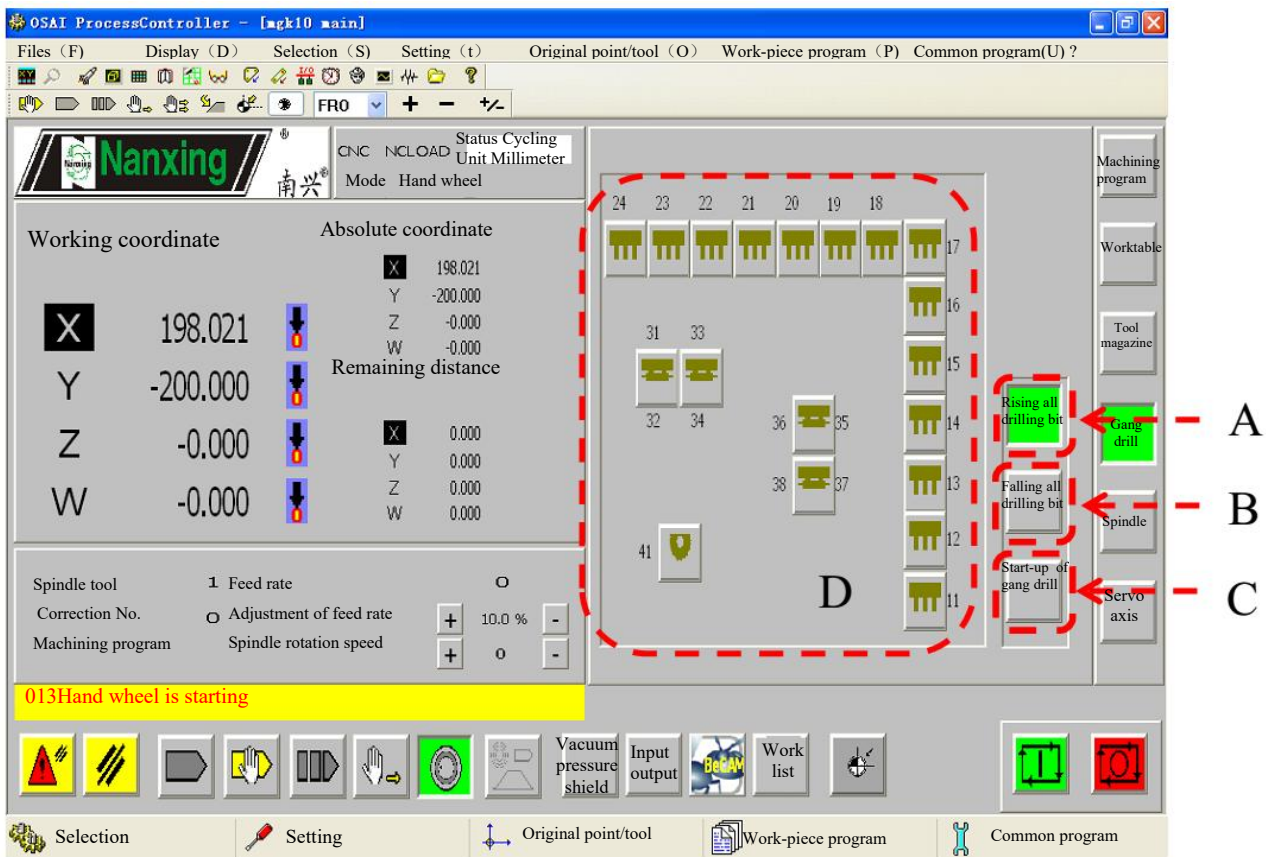

Fig.6.20
2. Click **Rising all drilling bit** to control the rise of all drilling bit, as shown in Fig.6.20(A)
3. Click **Falling all drilling bit** to control the fall of all drilling bit, as shown in Fig.6.20(B)
4. Click **Start-up of gang drill** to control the start-up and shut-down of gang drill motor, as shown in Fig.6.20(C)